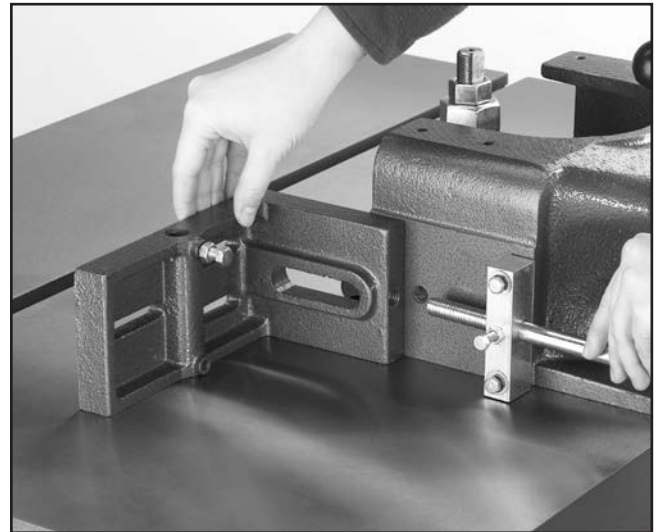

Figure 16. Adjustment guide to fence bracket.
1. Thread the adjustment shaft into the fence bracket as shown in **Figure 16**.